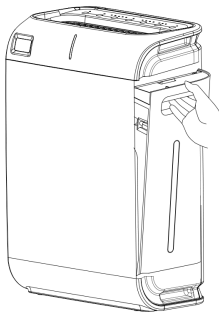
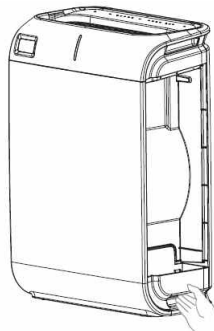
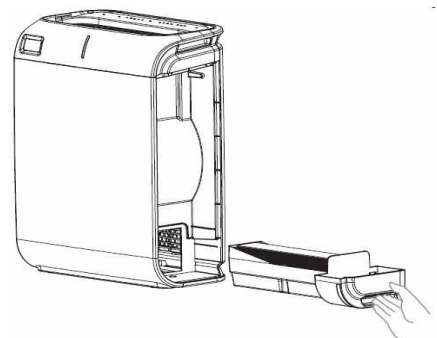
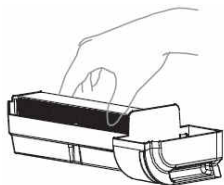

Fig 8
Fig 9
Fig 10
Fig 11
7. Insert fingers into the handle of water tank, press the active button and lift out the water tank. (Fig 8)
8. Hold the handle at the bottom of water channel, and pull it horizontally until completely out. (Fig 9 & Fig 10)
9. Take out the humidify filter and remove the bag. (Fig11)
2. Screw off the water cap at the bottom of water tank. Fill suitable water inside, and then screw the cap tightly. If outboard of tank wet, wipe it with dry cloth. (Fig 8、 9、 10)
3. Catch the water tank with handle, fix the tank back into the right side of appliance. Make sure slightly fix it. (Fig 11)
- 1) Following the steps to take out the water channel. Put it softly on the ground to avoid water in the channel poured out and wet the appliance, and take out the humidify filter. (Fig 8, Fig9, Fig10, Fig 11)